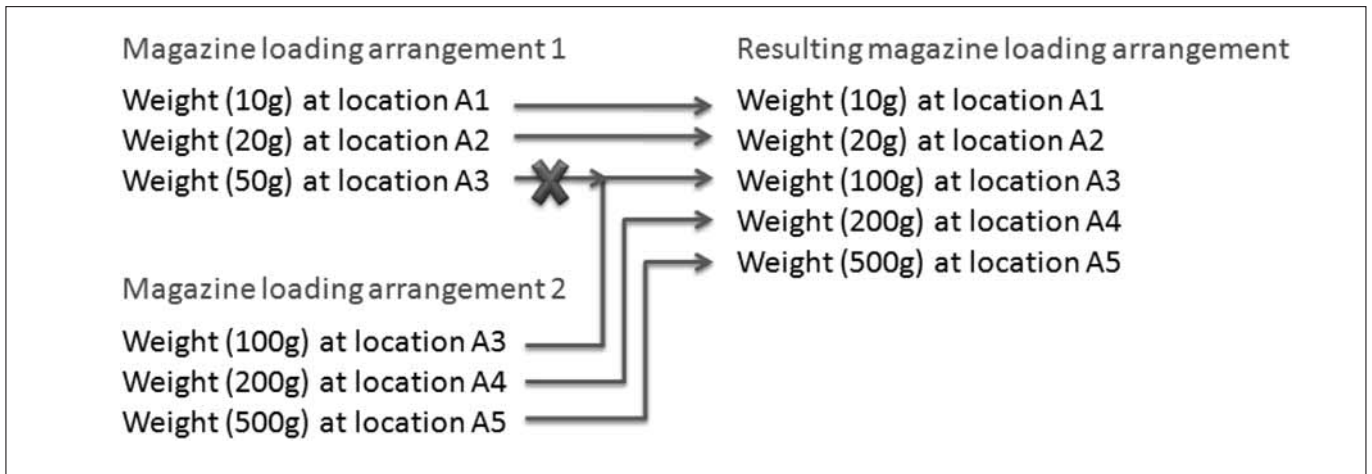

Figure 5: Combining of magazine loading arrangements
21. Create a new job and delete all current data in the Comparator Tasks, as well as in the Edit Allocation menu; load a job that has already been created, or if a job has already been created, and another must be added to it, the operator is asked if these two jobs should be merged. Here the magazine loading of the last loaded job has priority, and the old magazine loading is overwritten; see Fig. 5. The comparator tasks of the job to be loaded are added to the existing ones; overwriting the magazine loading can lead to inconsistencies, therefore the comparator tasks must be checked continuously! Save a job to a file.
The placement stations for the weights are entered into the program in the Magazine Allocation menu. There are two options here. A previously saved arrangement of weights on the magazines can be recalled via the Load button. If desired, several arrangements can be loaded, and these are then combined. If a discrepancy should arise during this process because stations are already occupied, the weights belonging to the last loaded arrangement have priority; see Fig. 5. In the example, magazine loading arrangement 2 is loaded and added to magazine loading arrangement 1. The operator is not asked whether this loading arrangement should be merged with the other during the loading process! If this combining of the newly loaded arrangement with the current arrangement is not desired, the magazine loading arrangement must first be deleted (clear all mags) and then the desired new arrangement loaded. If you prefer to use your own arrangement of weights on the magazines, select a suitable magazine, and enter the corresponding parameters (nominal